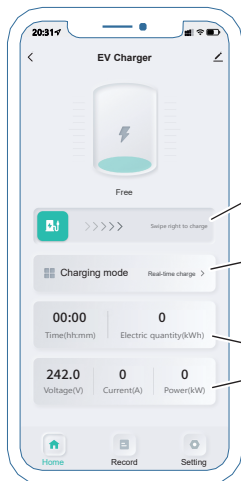

Fig.1
- Tap the “Home” icon to enter the charging interface. For detailed operation instructions, please refer to Figure 1.
See Fig.1 for reference.